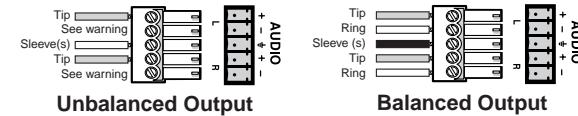

Figure 2-17 — Captive screw connector wiring for audio output
4. Before connecting audio, determine whether your audio system is unbalanced or balanced. Connect an audio device, such as powered speakers, to the rear panel stereo audio output connector for balanced or unbalanced audio output. Following the wiring guide (figure 2-17), insert the wires into the appropriate openings in the captive screw connector. Tighten the screws on top to fasten the wires, then insert the wired audio connector into the audio output connector on the interface rear panel.